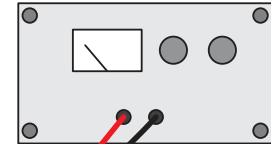

Figure 2. TLC5929 EVB Recommended Test Set-Up
Connect V_{CC} to J6 and V_{LED} to J5 as shown in Figure 2.
Figure 2 shows the basic test set up recommended to evaluate the TLC5929 EVM. Note that although the return for J5 and J6 are the same system ground, the connections should remain separate as shown in Figure 2.
2. Before connecting the DC input sources, V_{CC} and V_{LED} , limit the source currents. Set V_{CC} and V_{LED} to 0 V, initially, and connect as shown in Figure 2.
4. Connect the DC power supplies, V_{CC} and V_{LED} , to the EVM as shown in Figure 2.
5. Connect the pattern generator or MCU to the EVM as shown in Figure 2.